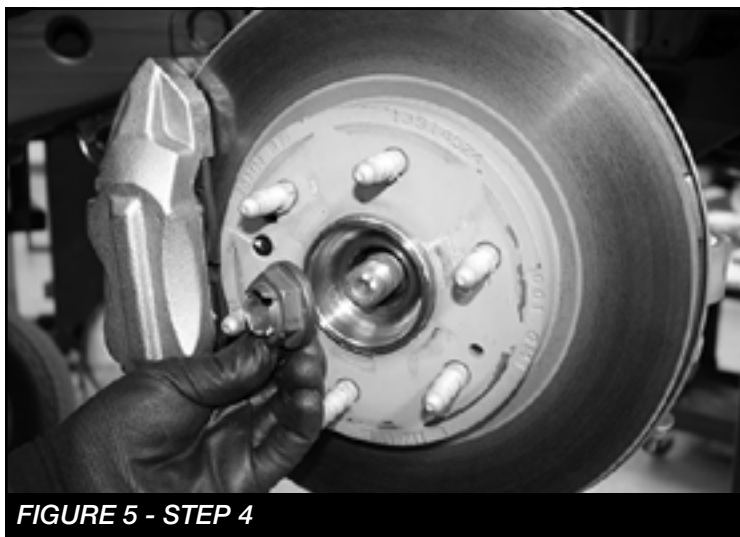

FIGURE 5 - STEP 4
4. Using a 36mm socket, remove and save the axle hub nut. **SEE FIGURE 5**